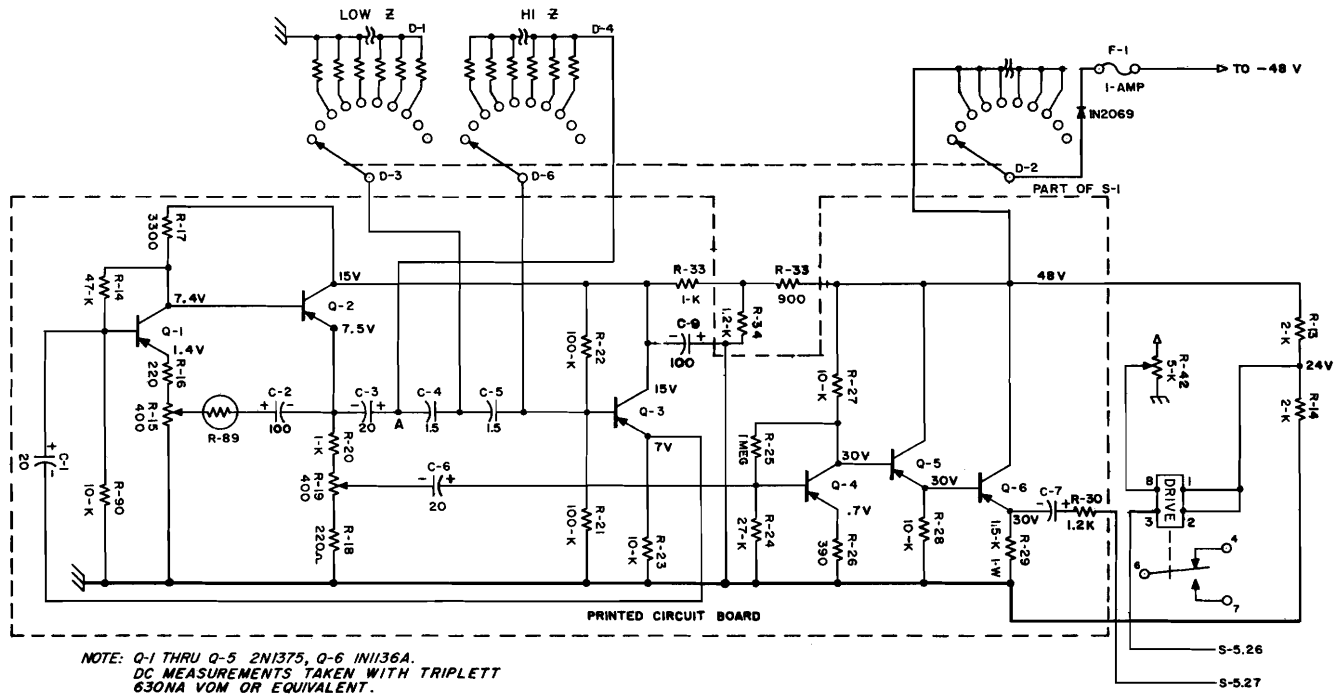
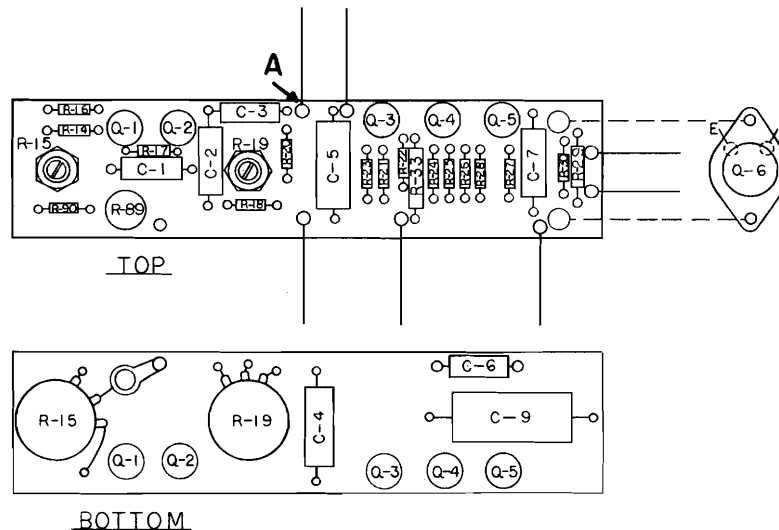

Figure 5-1
Figure 5-2
4.38 The circuit diagram to which the following description applies is shown in fig. 5.1. The location of the component part of this circuit is shown in fig. 5.2.
5.6 Referring to fig. 5-1, connect an oscilloscope between point A and ground. Point A is shown in fig. 5-2 which is the drawing of the printed circuit board assembly. The sine wave voltage appearing between these two points should be approximately 2.5 volts peak to peak. If not, adjust potentiometer R15 to achieve this level.